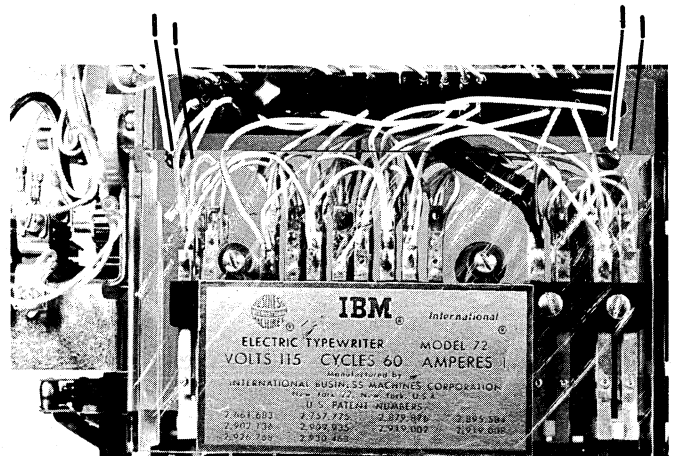

FIGURE 31. Selector Bail Removal
- * 1. -Remove the two screws (#1, Figure 31) that hold the contact plate to the frame. Remove the contact assembly, holding it to the front with a rubber band.